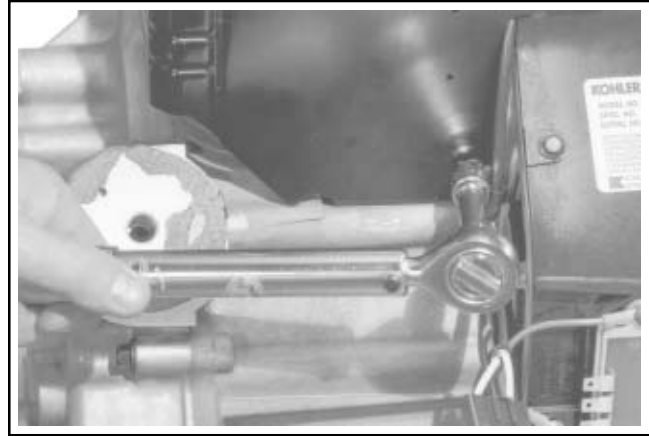
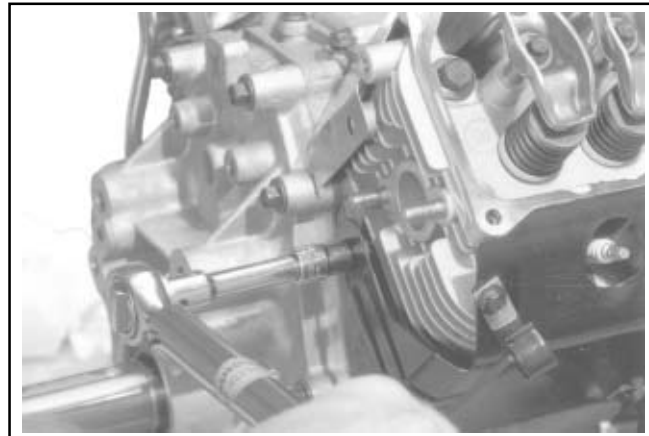

Figure 11-64. Tighten Short Screws to Torque Specified.
Figure 11-65. Tighten Baffle Mounting Screws.
5. Tighten all of the shrouding fasteners. Torque the blower housing screws to **6.2 N·m (55 in. lb.)** in a new hole, or to **4.0 N·m (35 in. lb.)** in a used hole. Torque the shorter M5 side baffle screws to **4.0 N·m (35 in. lb.)**. See Figure 11-64. Torque the upper M5 side baffle screws (into cylinder head) to **6.2 N·m (55 in. lb.)** in a new hole, or to **4.0 N·m (35 in. lb.)** in a used hole. Torque the two rear M6 baffle mounting screws to **10.7 N·m (95 in. lb.)** in a new hole, or to **7.3 N·m (65 in. lb.)** in a used hole. See Figure 11-65.